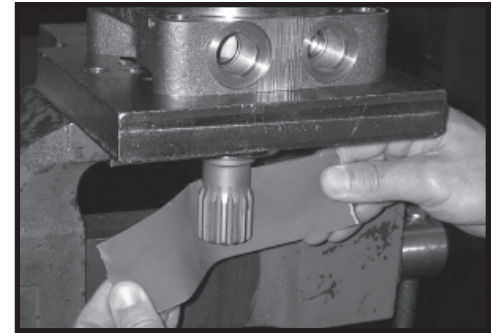

Figure 19
- 14. Check exposed portion of coupling shaft (12) to be sure you have removed all signs of rust and corrosion which might prevent its withdrawal through the seal and bearing. Crocus cloth or fine emery paper may be used. SEE FIGURE 19. Remove any key (12A), nut (12B), washer (12C), bolt (12D), lock washer (12E), or retaining ring (12F).